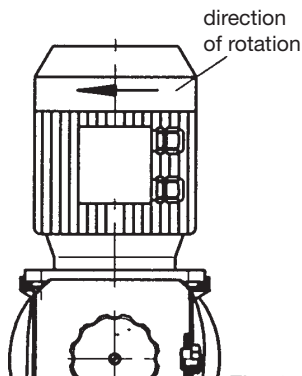

Fig. 16
- **When connecting the motor, make sure that it rotates in the correct direction (see Fig. 16 on the left side).**